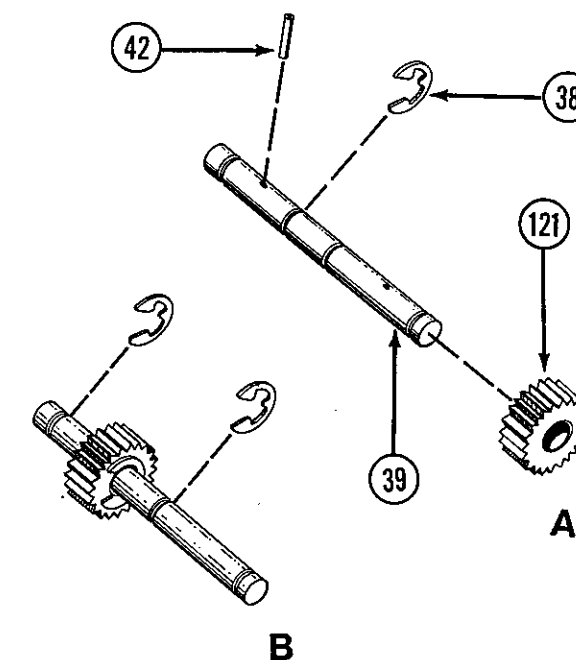

FIG. 16
20. Push 1/16" x 7/16" pin (42) through main gearbox shaft (39). Fig. 16 A.
21. Slide pinion gear (121) down shaft (39) so pin interlocks with groove in gear (90). Fig. 16 A.
22. Lock pinion (121) into place on shaft (39) by snapping a large 3/16" E-clip (38) into groove next to pinion (121). Fig. 16 A.
23. Install two large 3/16" E-clips (38) into grooves in pinion shaft assembly (39). Fig. 16 B.